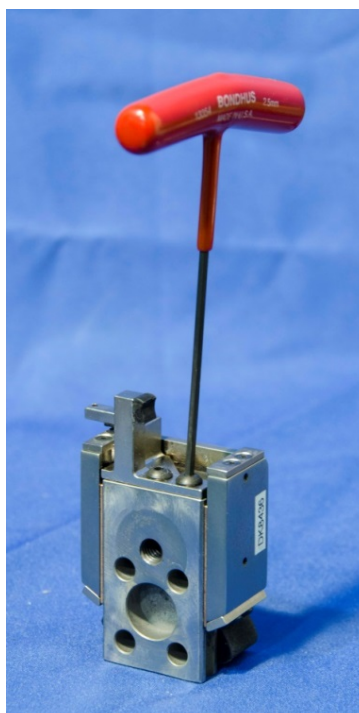

Figure 11-10. Install string pot holder assembly to inboard slider
11.2.2.6 Install the String Pot Holder Assembly (472-5306) to the Molded Inboard Slider Assembly (472-5320) using two M4 x 6 BHCS, as shown in Figure 11-10.